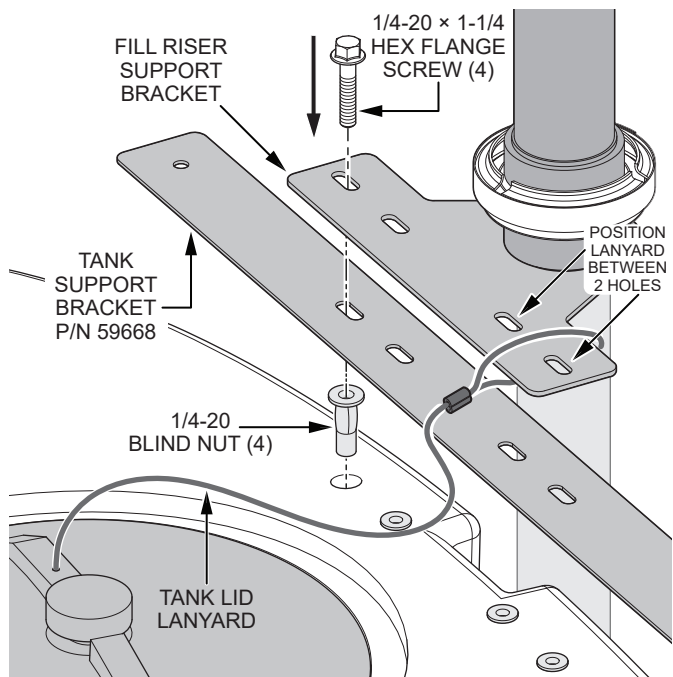

Figure 5. Install Tank Support Bracket (Front Of Tank)
2. Place a **tank support bracket (P/N 59668)** onto the front end of the water tank as shown in Figure 5.
- The fill riser support bracket should be on top of the tank support bracket as shown in Figure 5.
3. Make sure the **tank lid lanyard** is looped around the **fill riser support bracket** as shown in Figure 5. The lanyard loop should be positioned between the two slotted holes at either end of the bracket.
4. Use the **four 1/4-20 × 1-1/4 hex flange screws** and **four 1/4-20 blind nuts** from step 1 to secure the two brackets to the water tank (Figure 5).